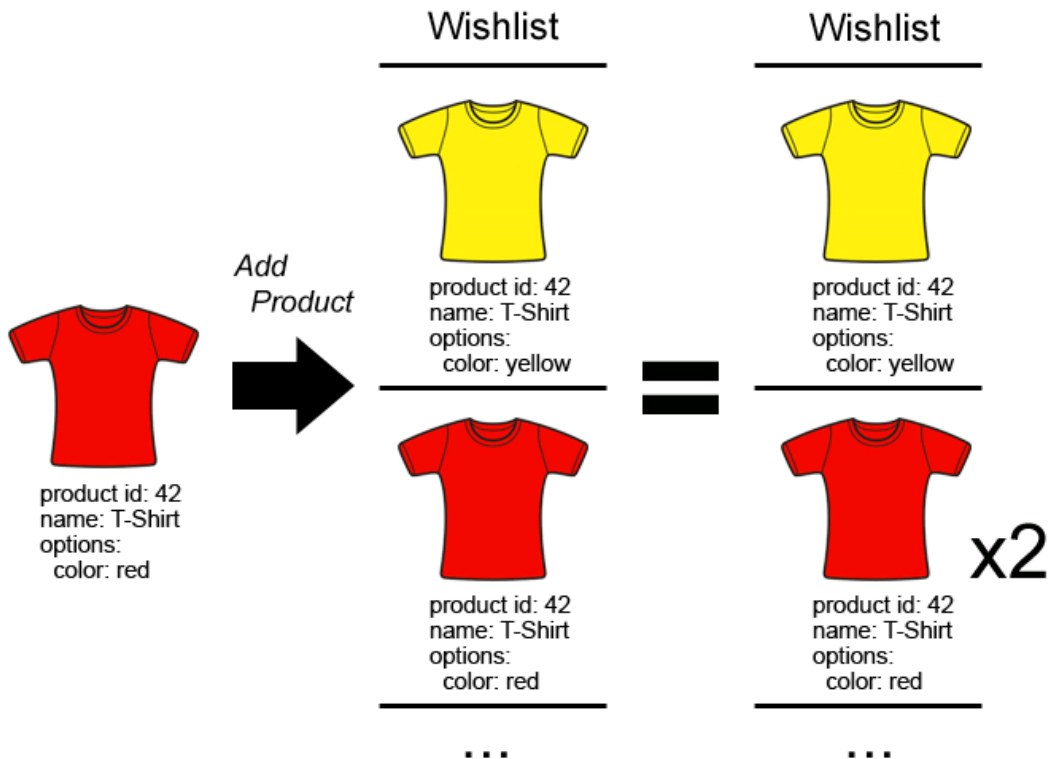

Fig. 37. Appending configurations, technical information included
The t-shirt shown in Fig. 37 is stored twice within the Wishlist items collection. It's the same product – "T-Shirt". It has the same product id (42), but a different product configuration – one t-shirt item has the option 'color' set to 'yellow', the other Wishlist item has